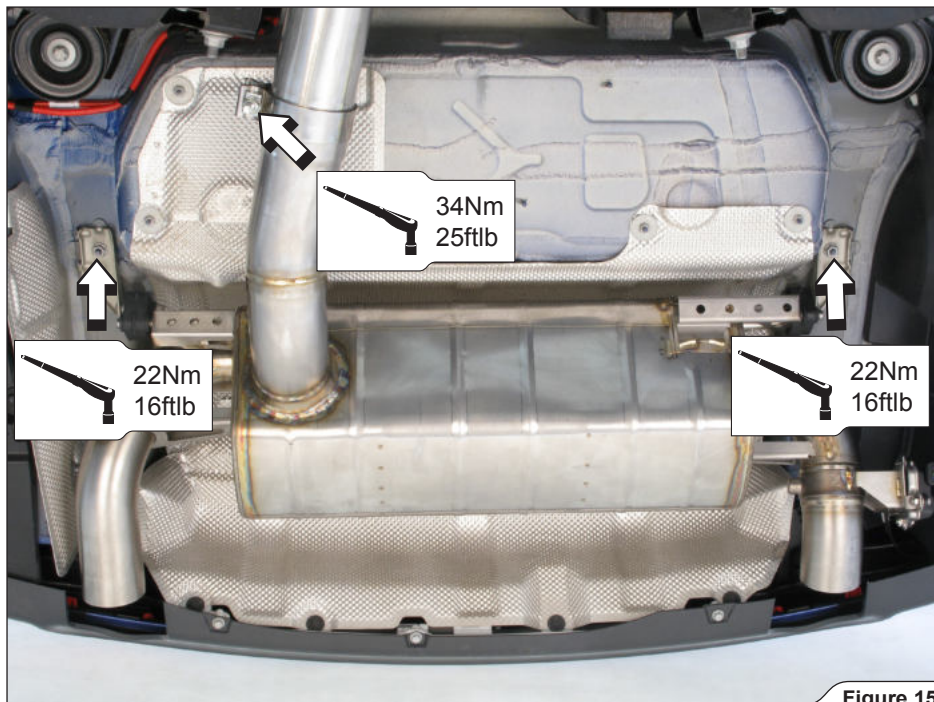

Figure 15
- Slide the muffler all the way onto the link pipe, adjust and align it in respect to the vehicle chassis, than tighten the rubber brackets and clamp to the specified torques (**Figure 15**).